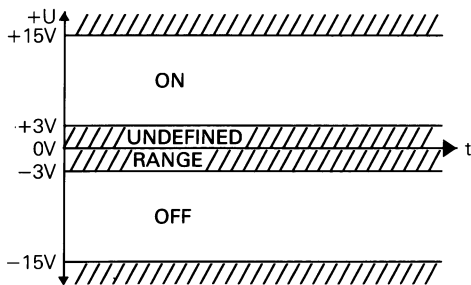

Fig. 4: Logic definitions for control and signal lines.
- positive, then the signal state is ON (see Fig. 4).